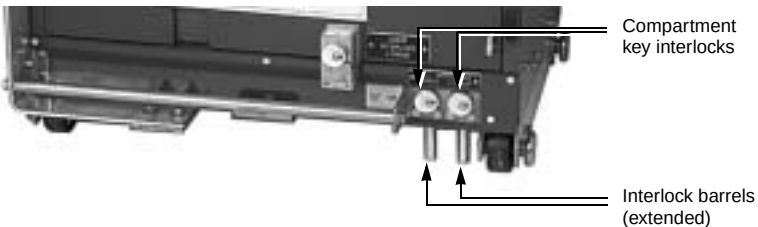

Figure 24: Circuit Breaker Compartment Key Interlocks with Access Doors Closed (Interlock Barrels Extended)
4. Insert interlock keys into the compartment key interlocks located at the base of the G&T device (see Figure 24).